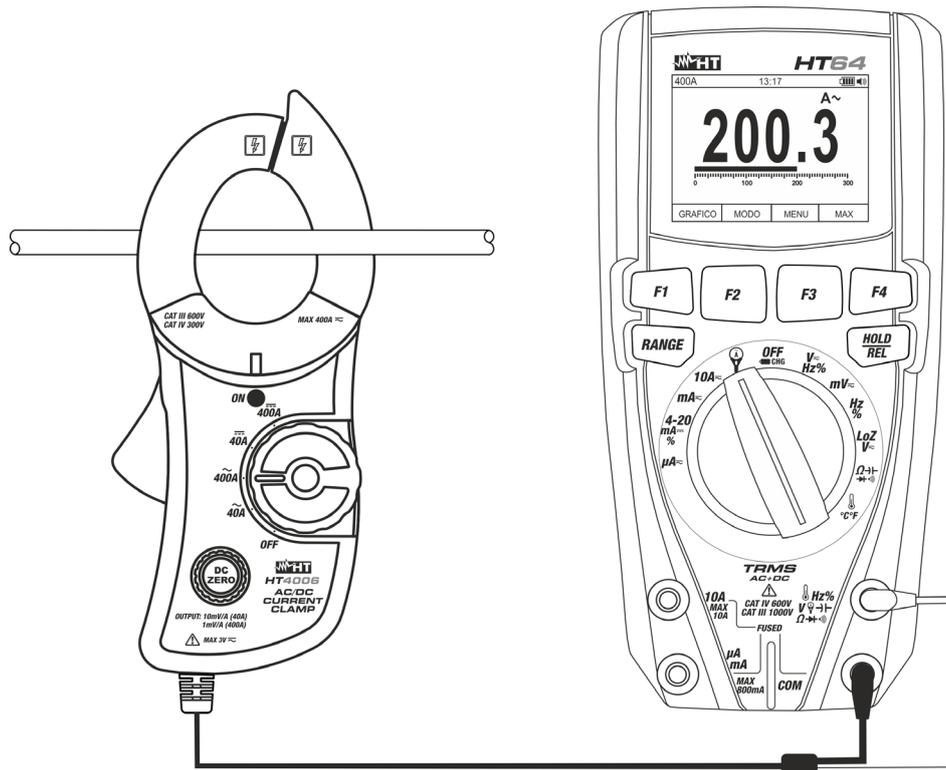

Fig. 3: Use of the instrument for measuring AC/DC current in combination with HT64
8. Open the jaws and insert the phase cable in the middle of it (see Fig. 3). **For DC current measurement** consider the arrow on the top part (see Fig. 1 – part 9) which indicate the positive direction of the current. The display of the multimeter shows the value of current **expressed in A**